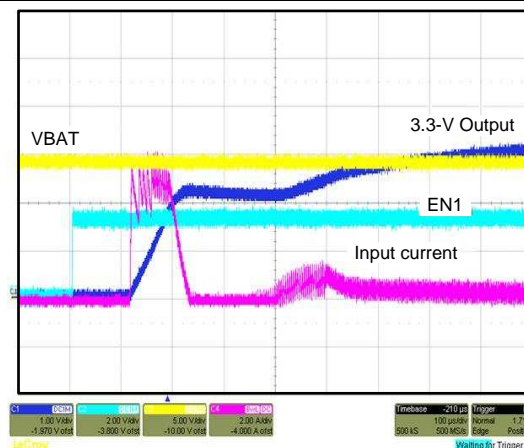

Figure 16. Partially Discharged SS Capacitor Causes Nonmonotonous Ramp and High Input Currents
- A nonmonotonous ramp (see Figure 16)
- High inrush-current (up to 6 A, see Figure 16)